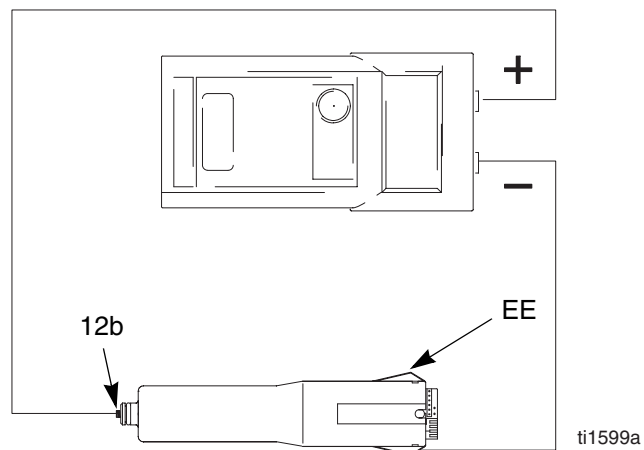

Fig. 18. Test Power Supply Resistance
1. Remove the power supply (12), page 53.
2. Remove the turbine alternator (13) from the power supply, page 54.
3. Measure resistance from the power supply's ground strips (EE) to the spring (12b). See FIG. 18..